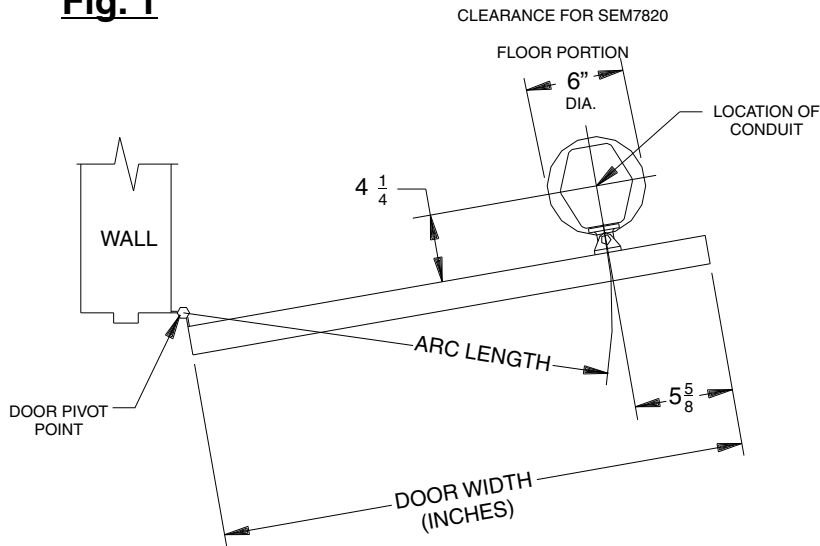

Fig. 1
- B. Guide the conduit through the hole in the base and snug up the conduit nut. Square up the base to the door, with the door opened to the desired position, as shown in Fig.1.